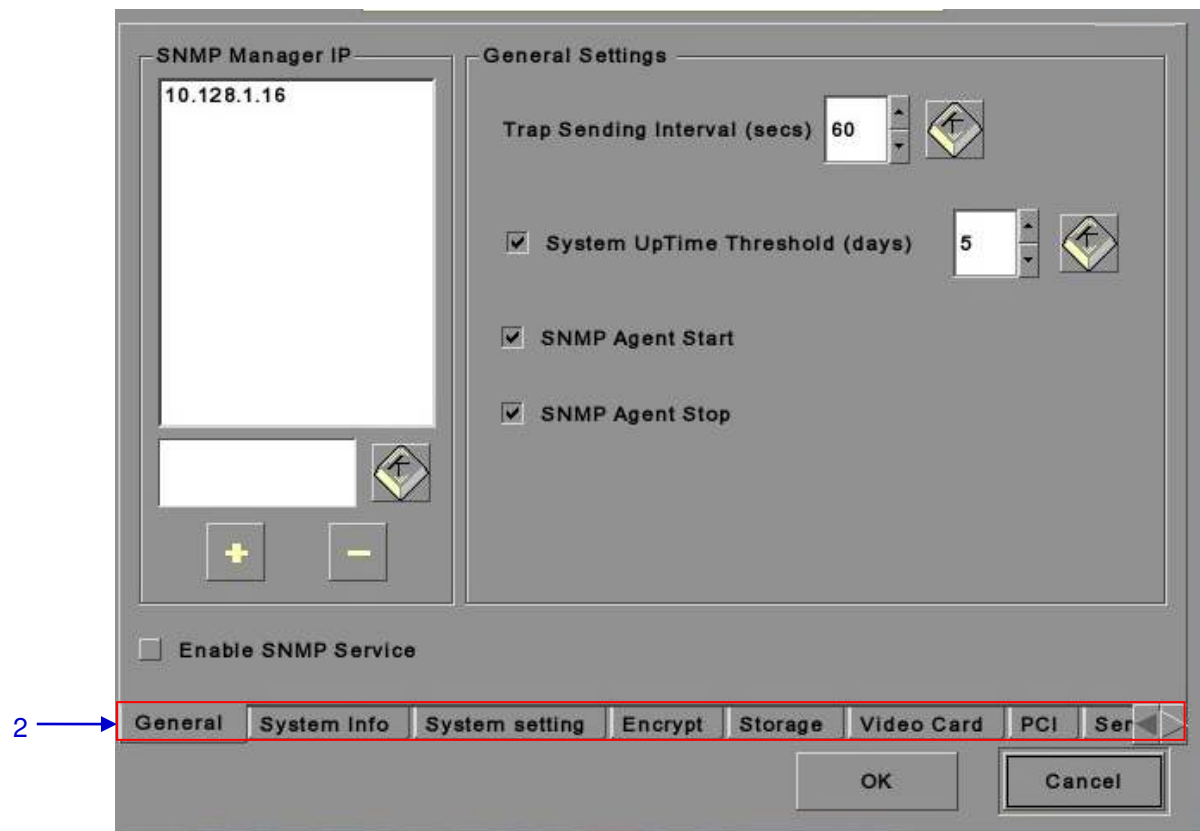

Figure 19 SNMP Configuration [General].
- 1 On the **Configuration**, select **SNMP Setup**. A new window appears as seen in **Figure 19**.